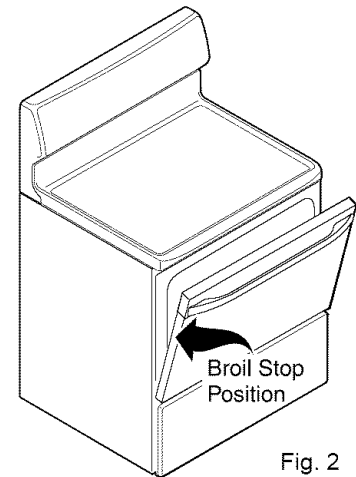

Fig. 2
3. When using 2 oven racks at the same time place in oven rack positions 5 & 2 for best results (See Fig. 2).
6. Place the broiler pan and insert on the oven rack (if equipped). **Open the oven door to the broil stop position when broiling** (See Fig 2).